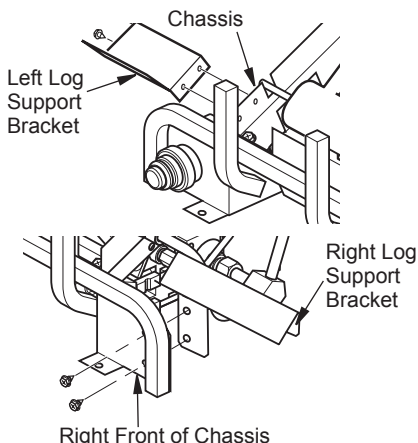

Figure 28 - Installing Log Support Brackets
1. Install left bracket to left side of chassis using 2 screws provided (see Figure 28, page 19).
2. Install right bracket to right front of chassis using 2 screws provided (see Figure 28, page 19). This bracket will also be used as remote control bracket if remote is installed.